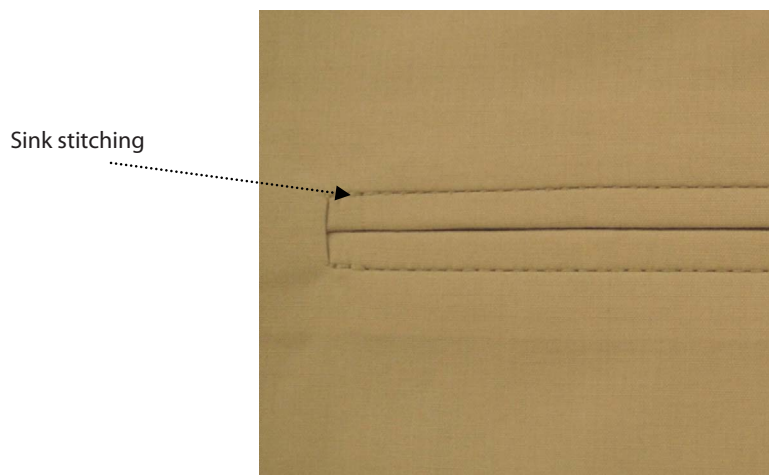

Figure 30
6. Secure the jets in position by stitching in the seam. This is called **sink stitching**. Back-tack at the beginning and end of the seams and ensure that the jets are equal in width (see Figure 30).